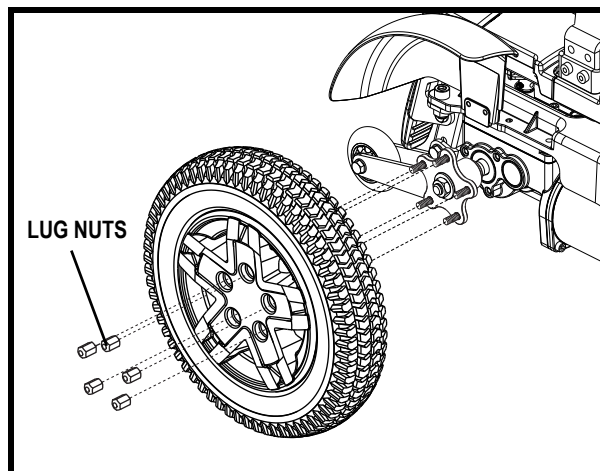

Figure 18. Rival Drive Wheel
4. Remove the five (5) lug nuts from the wheel hub. See figure 18.